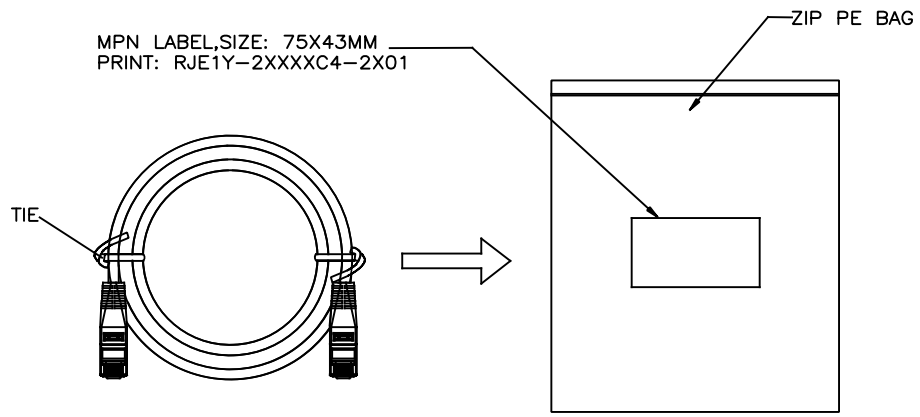

FIGURE 1
1. PACKING CABLE WITH TWO TIES, THEN PUT IT INTO POLYBAG AND SEALING IT, EACH BAG CONTAINS ONE CABLE(Figure 1).